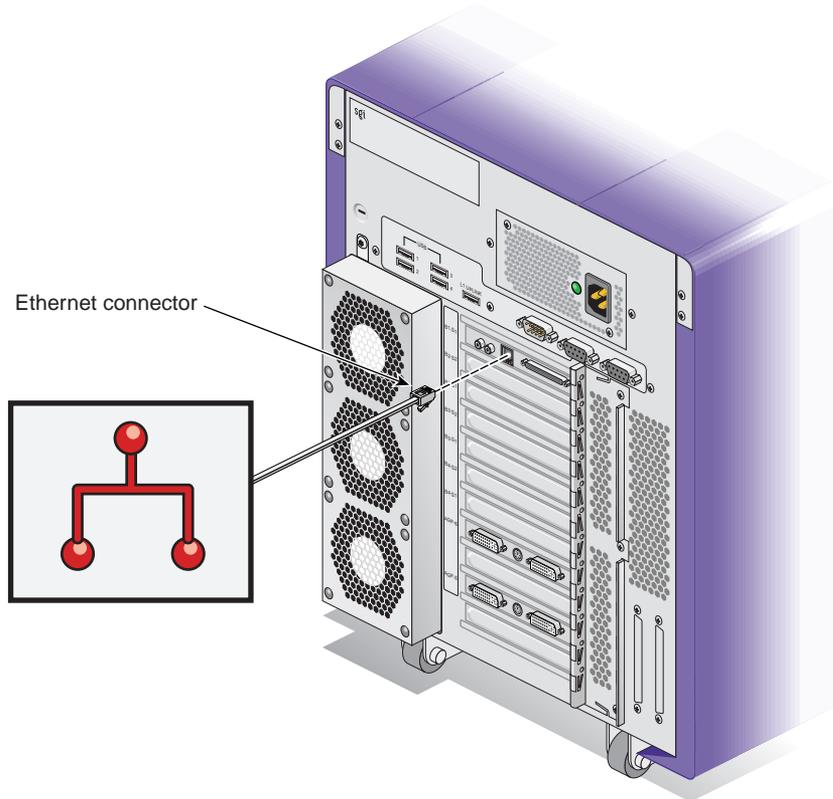

Figure 1-6 Connecting the Ethernet Cable
2. Connect the Ethernet cable to the Ethernet port on the base I/O card, as shown in Figure 1-6.